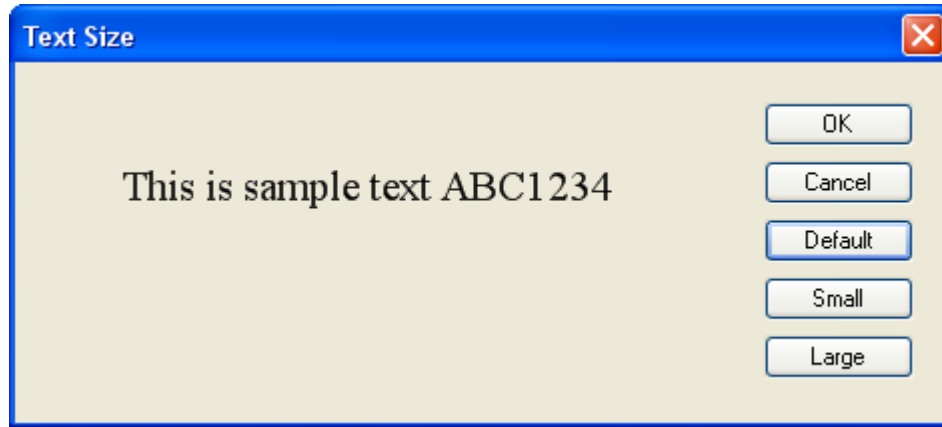

Figure 3-9
2. Click **Text Size**, **Text Size** window will be displayed (Figure 3-9).